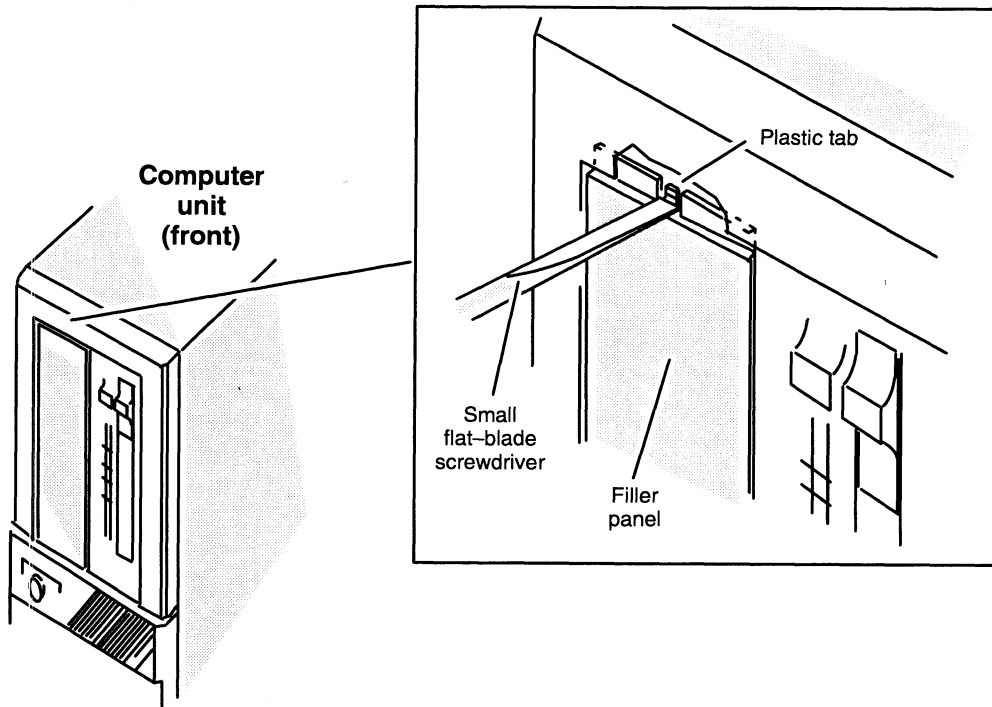

Figure 7-10 Removing or Replacing a Filler Panel
1. If you are installing a removable media drive, look at the computer unit’s front panel. If the slot where you are installing the drive has a plastic filler panel, you must remove the panel as described below. Figure 7-10 shows a filler panel covering the right front slot.